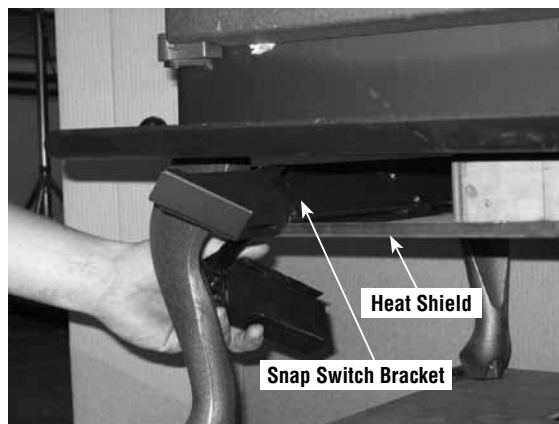

Figure 15
Step 2. Insert snap switch bracket between the heatshield and the bottom of firebox making sure entire assembly is on the left side of the heatshield bolt. Slide back until the notch on the bottom front of the bracket falls into the lip on the front of the heatshield, and assembly is parallel with side of firebox. See *Figures 15 and 16.*